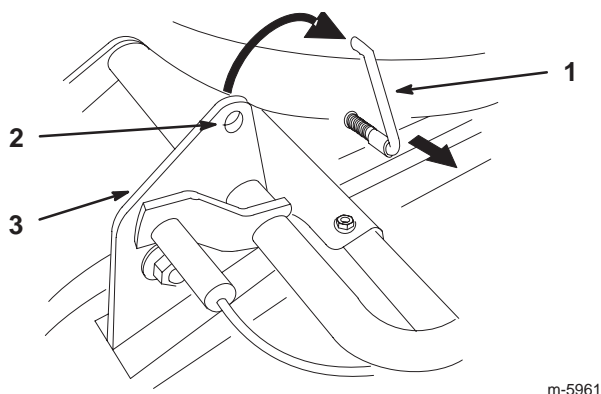

Figure 20
5. With the collector open, pull out the holding pin and insert into the hole in the hinge (Fig. 20).